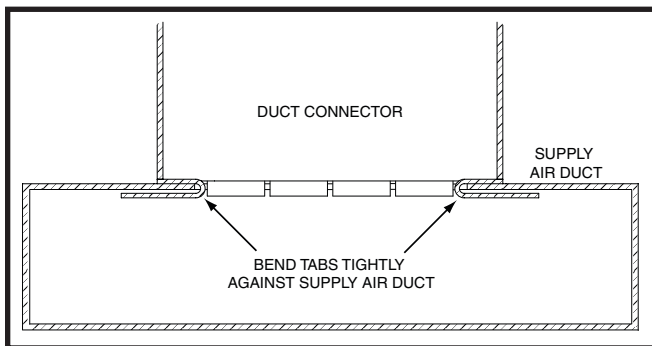

Figure 10. Duct Connector Tabs
- Bend both tabs up 90° on the mounting plate. See Figure 10 \(page 8\).